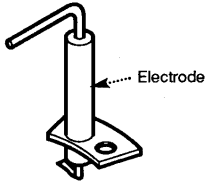

Fig. 51
2. Undo the screw retaining the electrode to the burner tray and withdraw (Fig. 51).